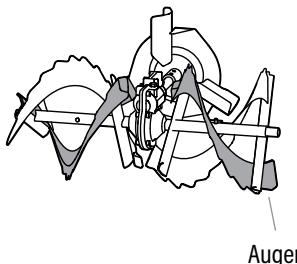

Fig. 19A
**Correct Installation:** The auger is properly aligned, allowing for optimal snow clearing performance. (Fig. 19A)